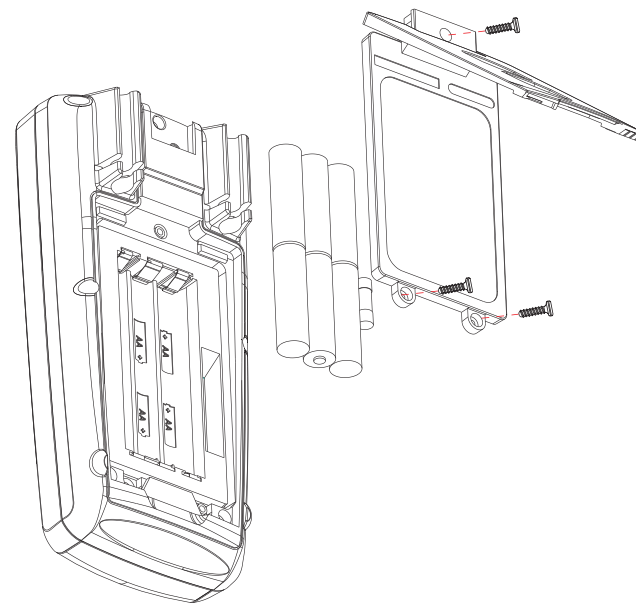

Figure 8
### 2. Installation or replacement of battery/fuse (See Figure 8)
6 1.5V(AA) batteries, as shown in Figure 8, provide power for the product. Please install or replace batteries as follows:
- ① Turn the rotary switch to OFF (shut down) and take off the test wire from the terminal.
- ② Remove three screws from the battery cover with the standard cross screwdriver, take off the cover and take out the batteries, then install the new batteries as per the indication of polarity.
- ③ It is required to install batteries of the same model. Do not install the improper batteries.
- ④ Take out the damaged fuse as per the methods specified in Figure 8, and replace them with the fuse of the same specification (specification: 500mA/600V ).
- ⑤ After installing new battery, put the battery cover in place and screw on three screws.